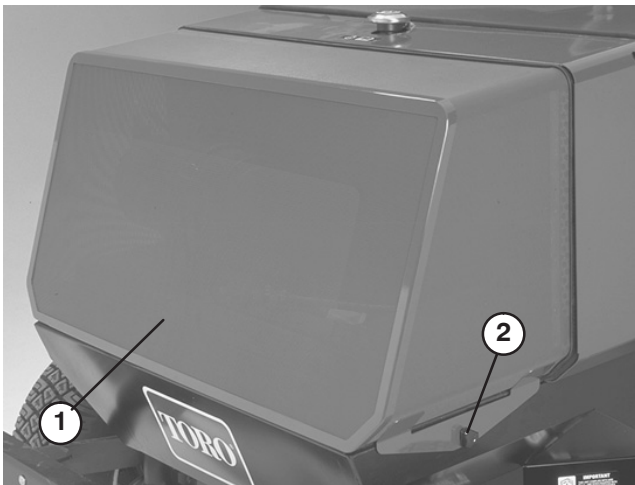

Figure 28
1. Remove knobs securing rear screen to frame (Fig. 28). Remove screen.